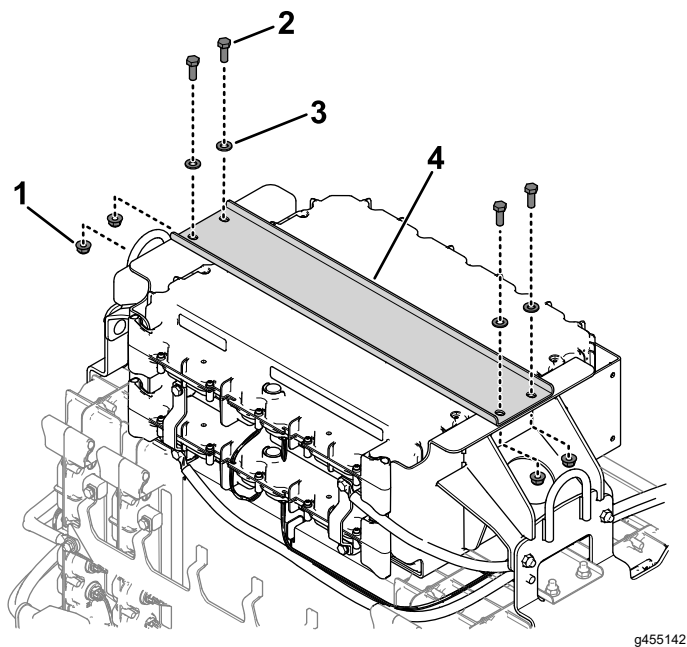

Figure 12
8. Use 4 hex-head bolts (5/16 inch), 4 washers (5/16 inch), and 4 hex-flange nuts to secure the battery cover to the battery tray (Figure 12).